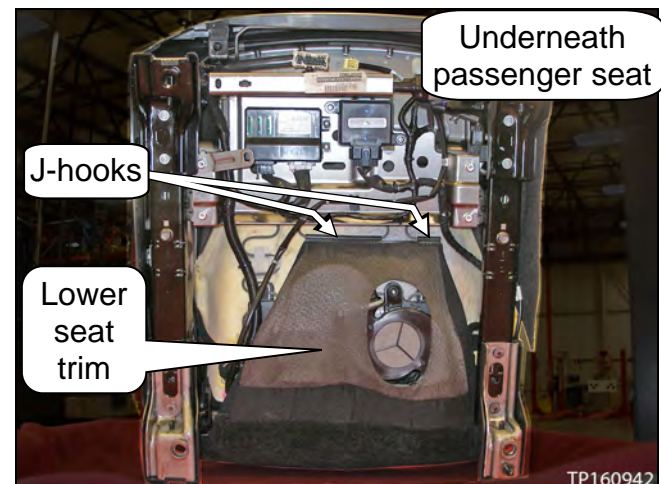

Figure 3
1. Climate controlled passenger seat: Unhook the J-hooks (see Figure 3).
- Figure 3 shows a typical climate controlled passenger seat. Your vehicle's seat configuration may differ slightly.